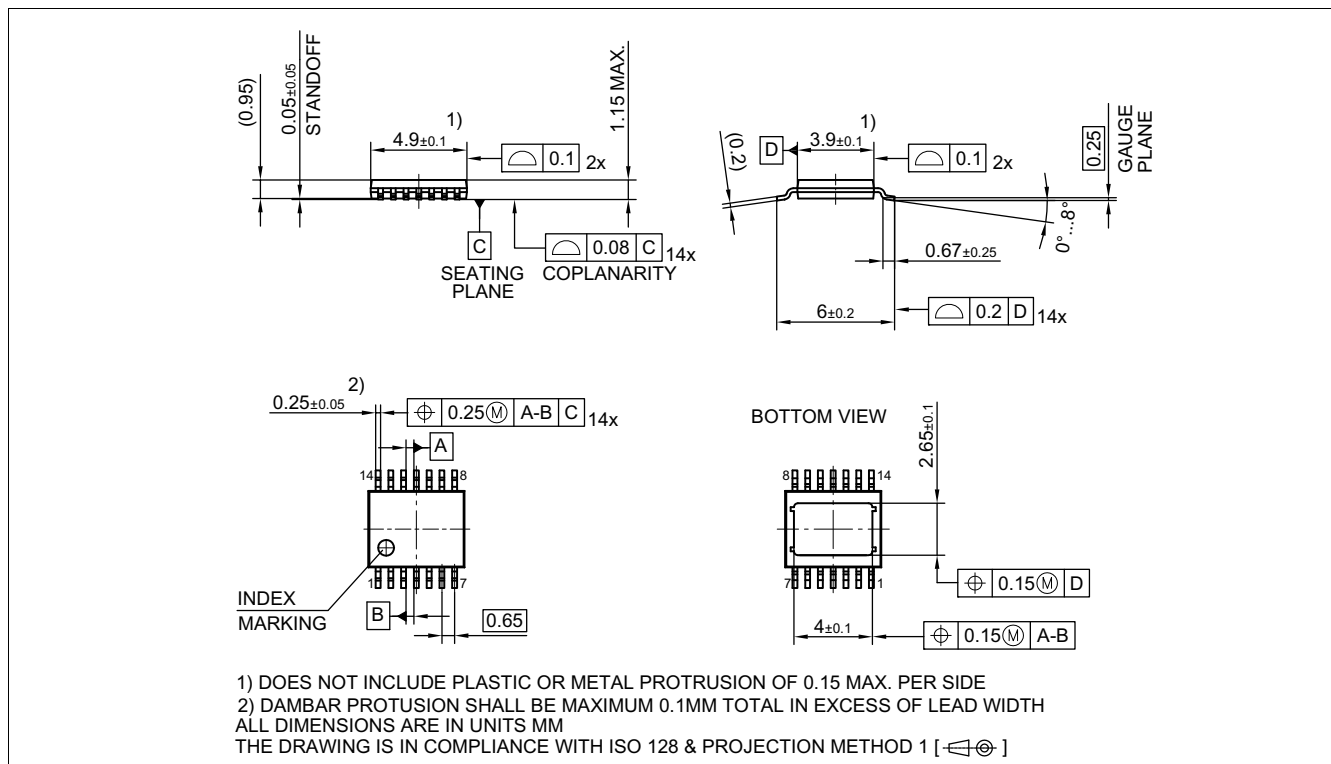
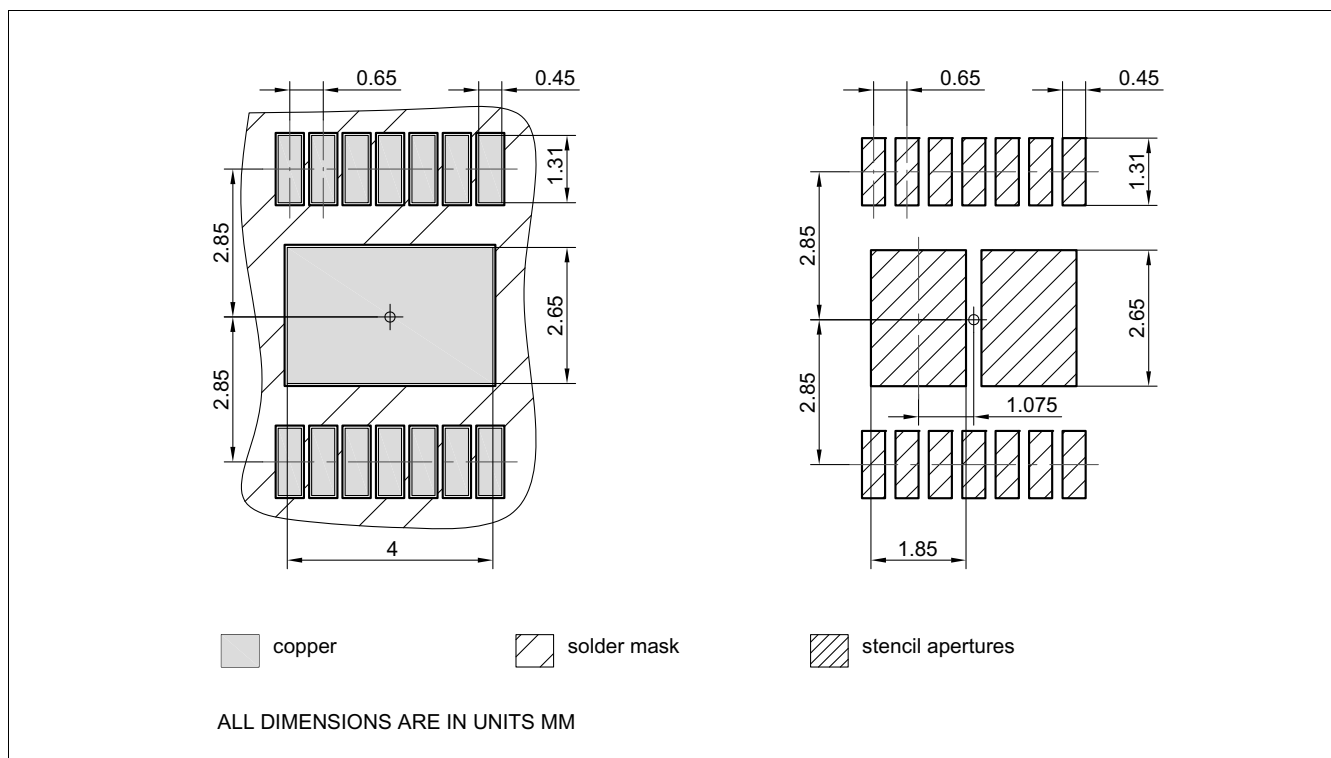

Figure 44 PG-TSDSO-14 (Thin (Slim) Dual Small Outline 14 pins) Package Outline
Figure 45 PG-TSDSO-14 (Thin (Slim) Dual Small Outline 14 pins) Package pads and stencil
1.13 , 2019-06-26	Chapter 9.2 updated ($2\text{ V} \rightarrow V_{\text{DS(OLOFF)}}$) Chapter 8.2 updated General: updated (ReverSave™ → ReverseON) Chapter 1 updated ((inserted headline "Product Validation"), (Qualified in accordance with AEC Q100 grade 1 → Qualified for automotive applications. Product validation according to AEC-Q100 Grade 1.)) General: updated Product Name (PROFET™+2 → PROFET™+2 12V) Page 1: updated figure product Table 24 updated punctuation Chapter 9.3.1 updated (typo) Page 1: updated (Package PG-TSDSO-14-22 → Package PG-TSDSO-14) Figure 29 updated Figure 44 updated (PG-TSDSO-14-22 (Thin (Slim) Dual Small Outline 14 pins) Package Outline → PG-TSDSO-14 (Thin (Slim) Dual Small Outline 14 pins) Package Outline) Figure 45 updated (PG-TSDSO-14-22 (Thin (Slim) Dual Small Outline 14 pins) Package pads and stencil → PG-TSDSO-14 (Thin (Slim) Dual Small Outline 14 pins) Package pads and stencil) Table 1 updated ((Symbol: $I_{\text{VS(SLEEP)}}$ → $I_{\text{VS(SLEEP)_85}}$), (Parameter: Minimum Overvoltage protection ($T_J = 25\text{ °C}$) → Minimum Overvoltage protection ($T_J \geq 25\text{ °C}$)) P_9.6.0.6 updated (Note or Test Condition: removed unnecessary line-break)
Rev. 1.10, 2017-10-24	P_7.5.1.6 updated (test condition: $R_{\text{SENSE}} = 1.2 \text{ k}\Omega$ added) P_7.5.1.7 updated (max: 22 $\rightarrow$ 33 mΩ) P_7.5.1.7 updated (test condition: $R_{\text{SENSE}} = 1.2 \text{ k}\Omega$ added) Figure 16 updated ($dV_{\text{ON}}/dt \rightarrow (dV/dt)_{\text{ON}}$, $(dV_{\text{OFF}}/dt \rightarrow -(dV/dt)_{\text{OFF}})$) Chapter 7.3.3 updated P_8.6.0.1 updated (max: 220 $\rightarrow$ 200 °C) P_8.6.0.8 updated typo ("Overcurrent" $\rightarrow$ "Overcurrent") P_9.6.0.1 removed P_9.6.0.13, P_9.6.0.14 added P_9.6.0.6 updated ($I_L \leq 2 * I_{L(\text{NOM})} \rightarrow I_L \leq 1.2 * I_{L(\text{NOM})}$) P_9.6.0.6 updated ($V_{\text{IS(RANGE)}} \rightarrow V_{\text{SIS}}$) P_9.6.0.7, P_9.6.0.8 updated ($V_{\text{IS(RANGE)}} \rightarrow V_{\text{SIS}}$) P_9.6.0.7, P_9.6.0.8 updated ($V_{\text{IS(RANGE)}} \rightarrow V_{\text{SIS}}$) P_9.6.0.9 updated (symbol: $V_{\text{IS(CLAMP)}_{-40}} \rightarrow V_{\text{SIS(CLAMP)}_{-40}}$) P_9.6.1.14 updated (min: 50 $\rightarrow$ - μs, test condition: "DEN = "high" from Load Change to $I_{\text{IS}} = I_L / (k_{\text{ILIS,MIN}} @ I_L) * 1.1$ from $I_L = I_{L(\text{CAL})}$ to $I_L = I_{L(\text{CAL})_{\text{OL}}}$" $\rightarrow$ "DEN = "high" from Load Change to $I_{\text{IS}} = I_L / (k_{\text{ILIS}} @ I_L)$ from $I_{L(\text{CAL})}$ to $I_{L(\text{CAL})_{\text{OL}}}$") P_9.6.0.10 updated (symbol and name: $V_{\text{IS(CLAMP)}_{25}} \rightarrow V_{\text{SIS(CLAMP)}_{25}}$ and $T_J = 25 \text{ }^\circ\text{C} \rightarrow T_J \geq 25 \text{ }^\circ\text{C}$) Table 24 updated (R_{DSEL} included) Figure 44 updated Figure 45 updated